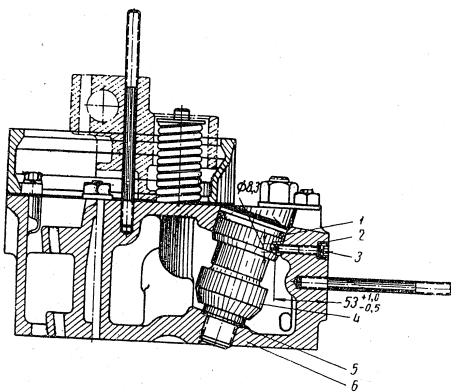

Fig. 34. Pre-combustion Chamber Installation:
**Pre-combustion chambers.** The pre-combustion chambers are turned-in into the cylinder heads and fixed by locking screws. Having unscrewed the locking screw, the pre-combustion chamber can be turned out with the help of a special spanner. When installing a new pre-combustion chamber, place a new copper gasket at the bottom of the hole for the pre-combustion chamber in the cylinder head (see Fig. 34).